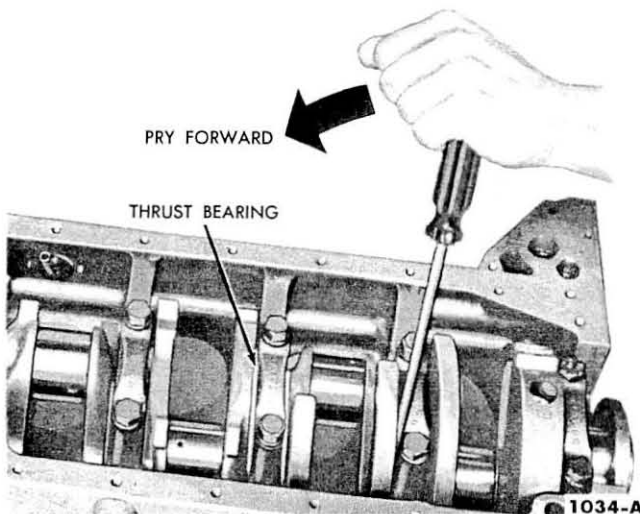

Fig. 37—Pry Cap Forward
2. Install the thrust bearing cap with the bolts finger tight, then pry the crankshaft forward against the thrust surface of the upper half of the bearing (Fig. 37).